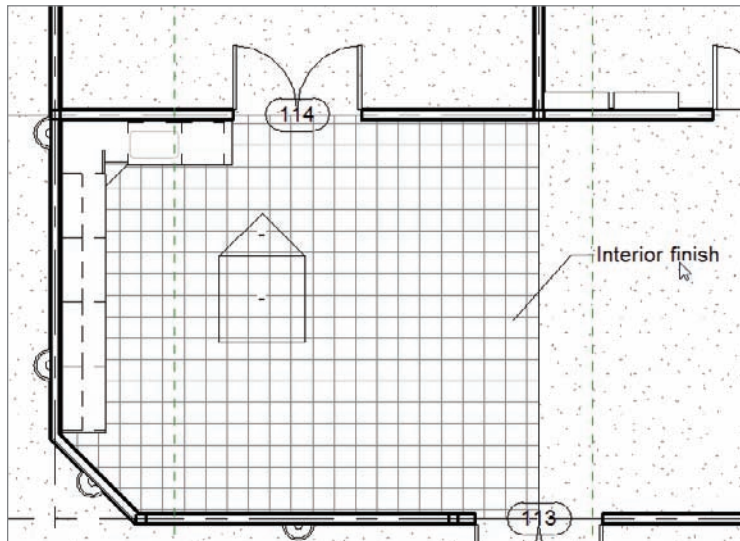

FIGURE 11.71 Placing the Interior finish note
7. Place your cursor over the tile floor as shown in Figure 11.71. Notice the tag reads Interior Finish. This is the default description that we will change in just a moment. When you see this tag, pick a point on the tile floor, and then place the note to the right, as shown in Figure 11.71.